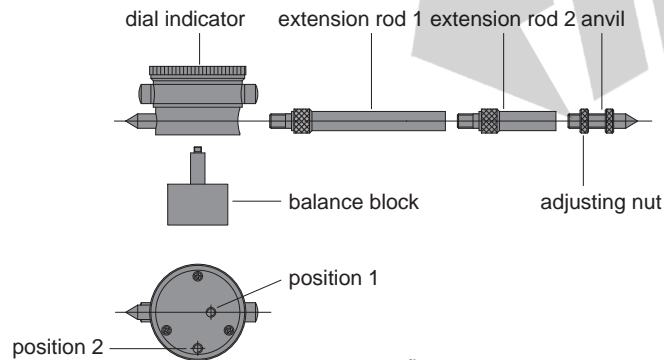

fig.1
- install extension rod and anvil as the fig.1